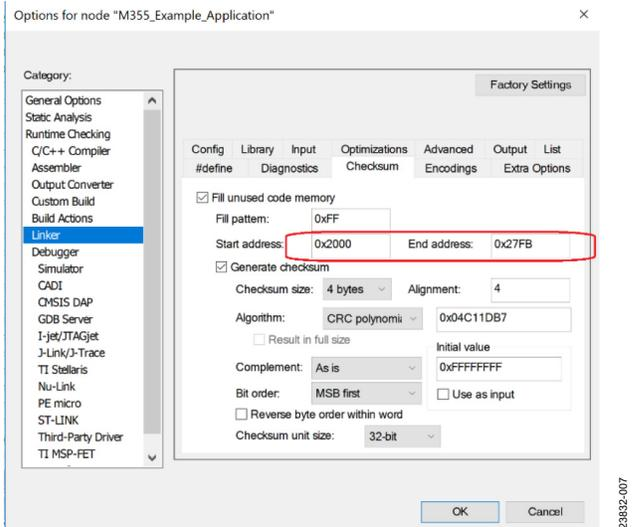

Figure 6. Checksum Calculation
5. The range for the calculation of the checksum for the user application must be adjusted for the changed memory layout. To adjust the checksum calculation within the IAR Embedded Workbench, go to **Linker > Checksum** tab as shown in Figure 6. Enter **0x2000** in the **Start address** box and **0x27FB** in the **End address** box. In the standard application, this calculation is used by the on-chip kernel to check the integrity of an application in the user flash. In the user bootloader or user application model, the on-chip kernel is checking the integrity of the user bootloader before switching to it, and the user bootloader is checking the integrity of the user application before switching to it.